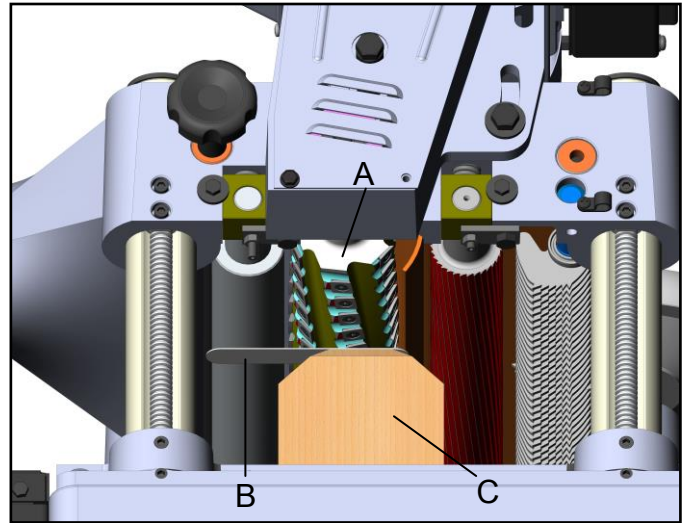

Fig. 23
3. Place the gauge block (A) on the table directly underneath the cutterhead as shown. Using a 0.5mm feeler gauge (B), placed on top of the gauge block, raise or lower the head until the knife tip (C) just touch the feeler gauge when the knife is at its lowest point. Do not move the head any further until the chip breaker is checked and adjusted as necessary, Fig. 23.